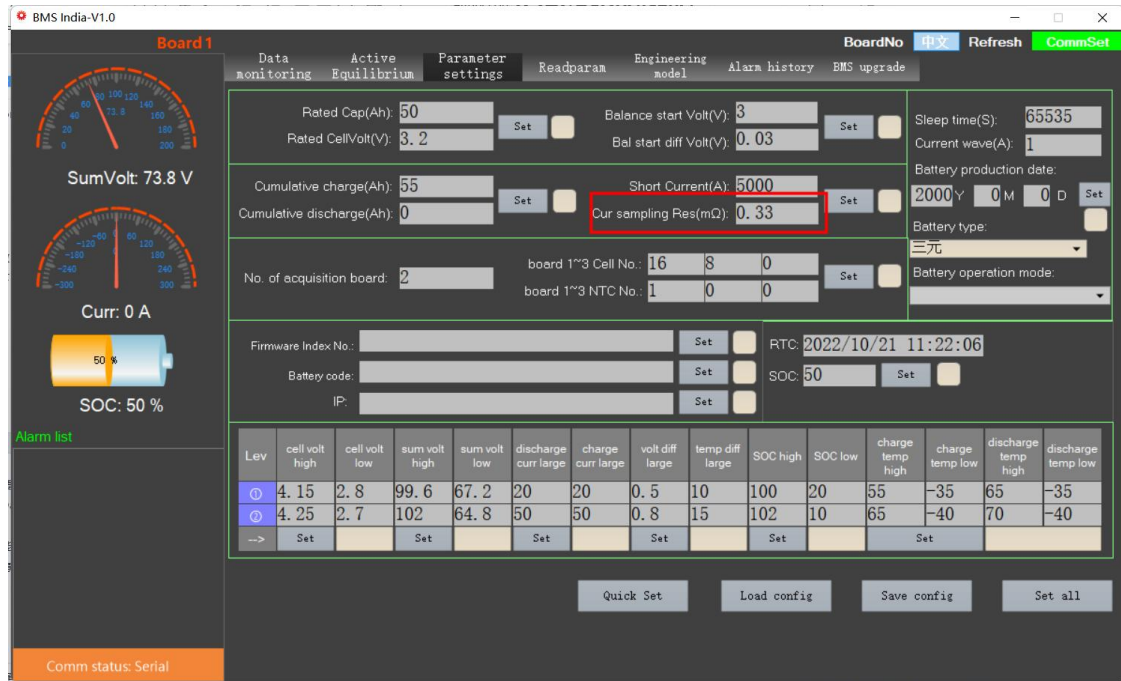

Figure 2-21 Setting the current sampling resistor of the BMS
- (1) Set the current sampling resistor of the protection board in the parameter setting panel. **Figure 2-21.**
- (2) When the battery is not connected to the charger and load, click "Current OA Calibration".